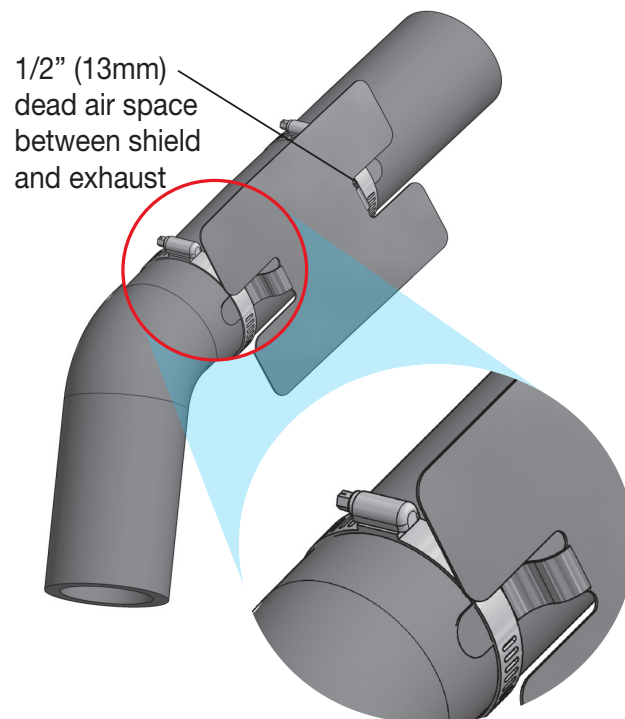

Fig. 30
1. Bend tabs to provide a dead air space between exhaust pipe and heat shield. (Fig. 30) Attach the heat shield to the exhaust pipe using the clamps. Bend the heat shield for maximum clearance to the air spring.